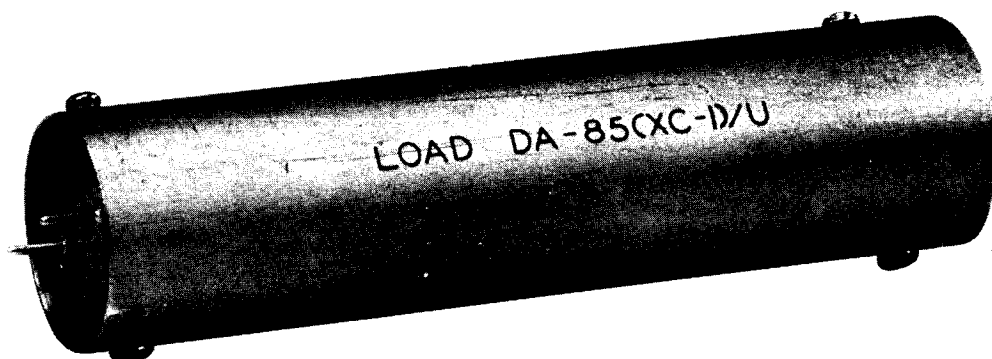

Figure 13. Electrical Dummy Load DA-85/U
12. Description of Electrical Dummy Load DA-85/U (fig. 13)